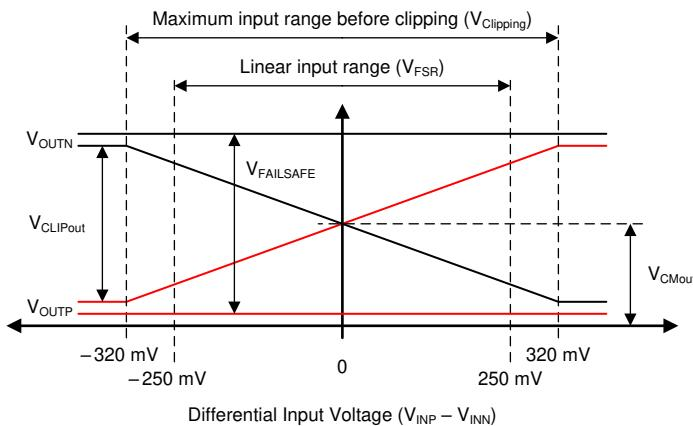

FIG 7-2. Output Behavior of the AMC3301-Q1
The AMC3301-Q1 offers a differential analog output comprised of the OUTP and OUTN pins. For differential input voltages ($V_{INP} - V_{INN}$) in the range from -250 mV to $+250$ mV, the device provides a linear response with a nominal gain of 8.2. For example, for a differential input voltage of 250 mV, the differential output voltage ($V_{OUTP} - V_{OUTN}$) is 2.05 V. At zero input (INP shorted to INN), both pins output the same common-mode output voltage V_{CMout} , as specified in the Electrical Characteristics table. For absolute differential input voltages greater than 250 mV but less than 320 mV, the differential output voltage continues to increase in magnitude but with reduced linearity performance. The outputs saturate at a differential output voltage of $V_{CLIPout}$ as shown in FIG 7-2 if the differential input voltage exceeds the $V_{Clipping}$ value.
The AMC3301-Q1 provides a fail-safe output that simplifies diagnostics on system level. FIG 7-2 shows the fail-safe mode, in which the AMC3301-Q1 outputs a negative differential output voltage that does not occur under normal operating conditions. The fail-safe output is active in two cases:
- The low-side does not receive data from the high-side (for example, because of a loss of power on the high side). In this case, the amplifier outputs are driven to the $V_{FAILSAFE}$ value that is shown in 图 7-2.
- The high-side DC/DC output voltage (DCDC_OUT) or the high-side LDO output voltage (HLDO_OUT) drop below their respective undervoltage detection thresholds (brown-out). In this case, the low-side may still receive data from the high-side but the data may not be valid. The amplifier outputs are driven to the $V_{FAILSAFE}$ value that is shown in 图 7-2.